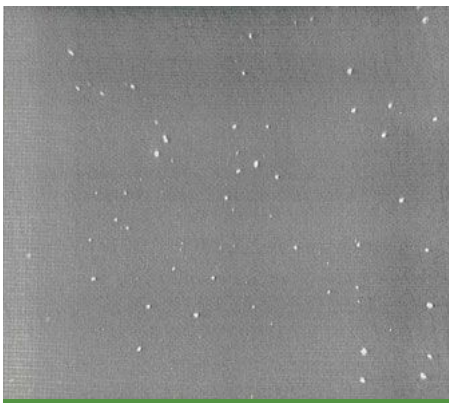

FIGURE 1. “Starry night” defect in photographic film
“Starry night” is a defect in some black-and-white (BW) photographic film. Prototypical BW film is a simultaneously coated, two-layer product: an “emulsion” layer (that turns black or stays clear) and an overcoat containing “matte” particles to provide roughness. As the layers dry, some matte particles get pushed into the emulsion, leaving clear spots in the developed film. When backlit, the “black” region looks like a starry night sky (see Figure 1) [1].